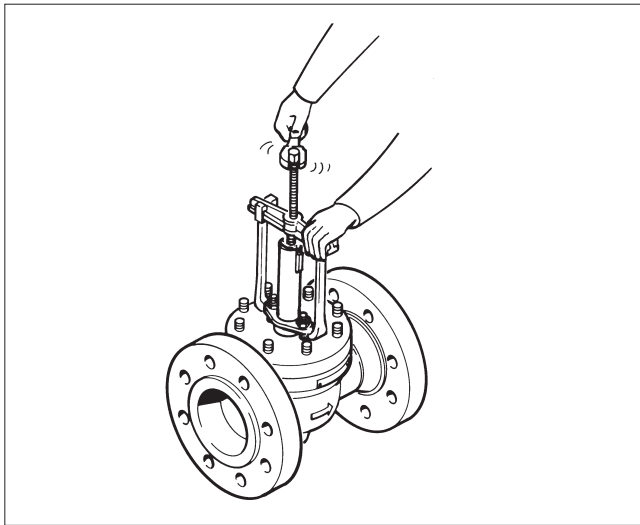

Fig. 9 Detaching the bonnet
- Pre-compress the packing rings (69) first tightening the gland nuts (18) to the torque  $T_t$ . See Fig. 9 and the value from Table 2.
- Retighten the nuts (18) to the torque  $T_t$ , see table 2.
- Check leakage when the valve is pressurized. If the leakage still occurs when the valve is pressurized, re-tighten the nuts (18) but don't exceed the torque  $T_t$  value in the Table 2 by 50 %.
- Remove the key (10). Check that there are no burrs on the edges of the key slot.
- Loosen the gland packing by unscrewing the nuts (18).
- Remove the hexagon nuts (16) on the bonnet.
- Lift the bonnet. You may use an extractor as help, see Fig. 9.